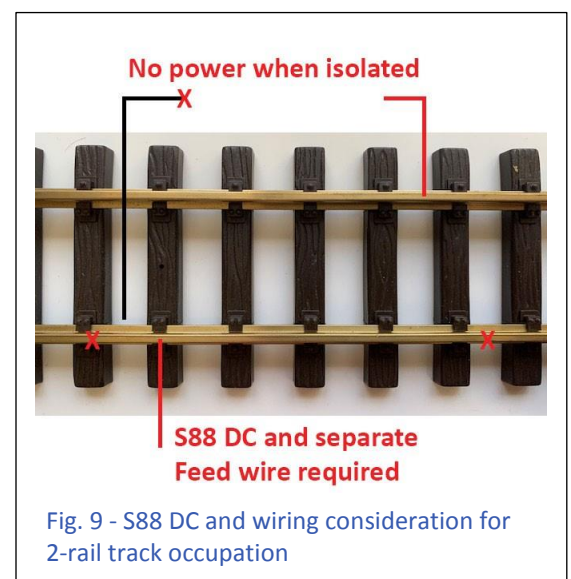

Fig. 9 - S88 DC and wiring consideration for 2-rail track occupation
To create track occupation sensors in a 2-rail system, we have to use an S88 DC. In Figure 9, we can't have a zero (0) rail to compare with, because that would mean we would have one rail "+" and **no** "-" rail (it's like disconnecting the - terminal from a battery). The S88 connections won't be connected to the "+" rail (which is compared to the "-" reference rail), because it would short out the controller. The S88 connections for 2-rail track occupancy would have to be connected to the same "-" rail as the reference inverted "T" rail. Since these rails are the same voltage and polarity, I believe that these sensors are activated by a change in current. This is important, because it means that 2-rail track occupancy can only be activated by a current drawing device, i.e. a locomotive or rolling stock that has track generated power draw like lights.